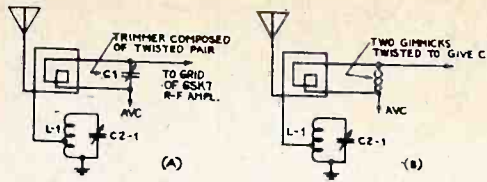

Figure 10.
Two gimmicks in the form of a twisted pair are used to give an effective capacitance across the secondary of the loop. The schematic representation and the actual circuit is shown in Fig. 10. The so-called twisted pair is shown schematically in Fig. 10(A) to be a trimmer capacitor  $C1$ . This  $C1$  actually consists of two separate twisted gimmicks. One gimmick is attached to the high side of the secondary of the loop, as shown in Fig. 10(B), and the other gimmick has one end attached to the low side of the same loop secondary, which goes to the avc circuit. Both the other ends of the gimmicks